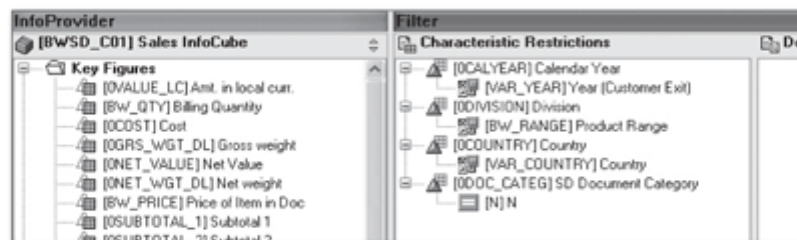
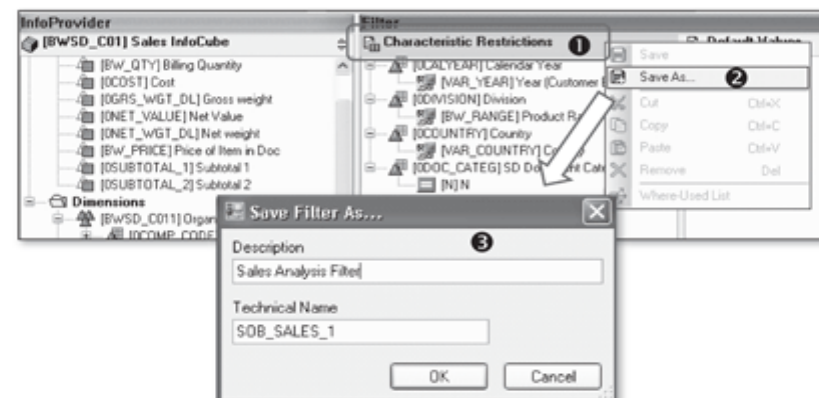

Figure 9.42 Filter Defined for Multiple Characteristics
Figure 9.43 Saving the Filter as a Reusable Component
Restrictions can be maintained for different characteristics together in a query. For the given example, you can drag the other characteristics, such as division, country, or document category, and restrict it per the logic (see Figure 9.42).
Note that in Figure 9.42, the characteristic SD Document Category is excluded for the value N. After this filter is defined for a query, it can be saved as a reusable component to be used in other queries built on the same InfoProvider (Figure 9.43).
To save this filter, open the context menu (right-click) from the Characteristic Restrictions bar (❶ of Figure 9.43), and select Save As (❷). Maintain the description and technical name for the filter, and save it as a reusable component (❸).